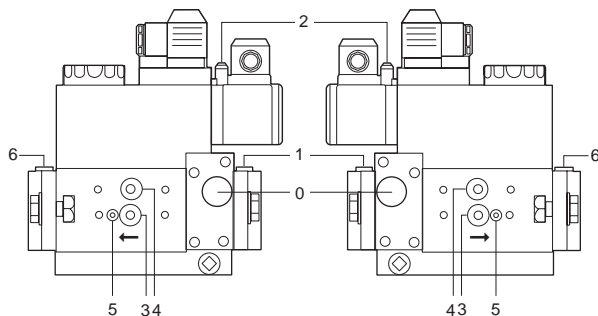
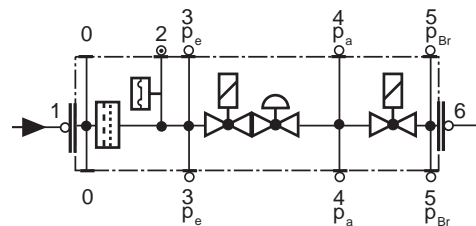

Fig. 26
Fig. 27
- Change the filter if the pressure difference between pressure connection 1 and 3 (Fig. 26-Fig. 27) is $\Delta p > 10$ mbar.
- Change the filter if the pressure difference between pressure connection 1 and 3 (Fig. 26-Fig. 27) is twice as high compared to the last check.